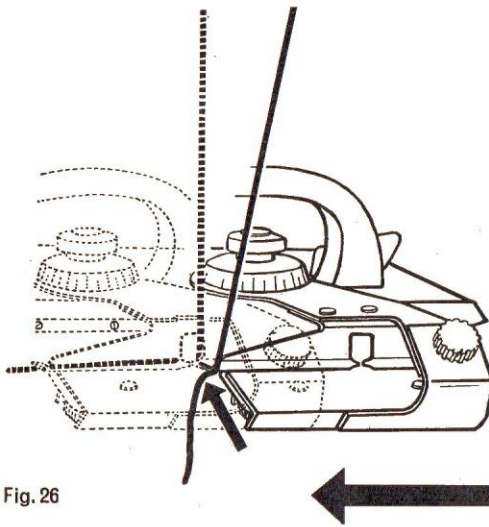

Fig. 26
Now move the lock slightly to the left and hold the yarn lightly and it will automatically pass into the central position. Fig. 26.
5. It is then passed through the slit of the feeding eyelet immediately above the stripper and from the left between stripper and striking comb as shown in following Fig. 26.